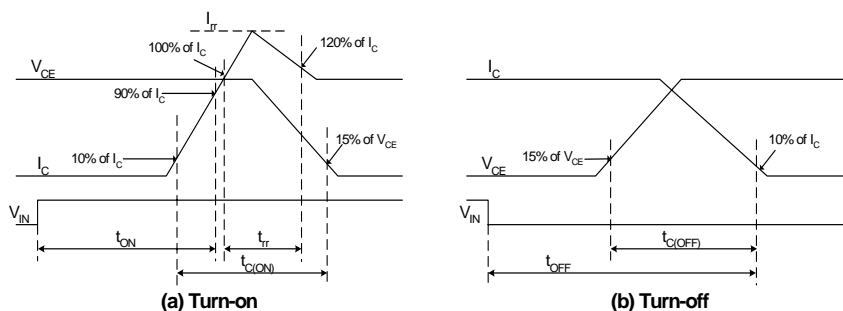

Fig. 4. Switching Time Definition
3. t_{ON} and t_{OFF} include the propagation delay time of the internal drive IC. $t_{C(ON)}$ and $t_{C(OFF)}$ are the switching time of IGBT itself under the given gate driving condition internally. For the detailed information, please see Fig. 4